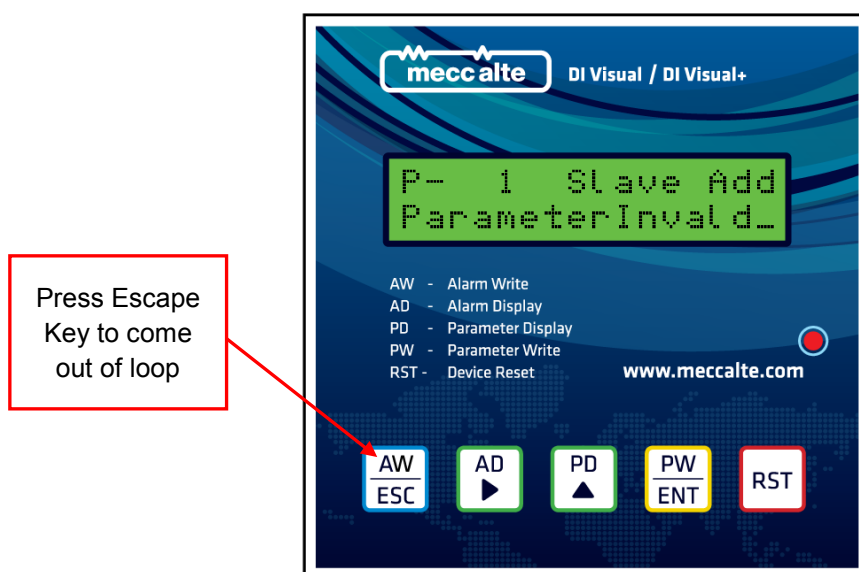

fig. 20
- 5) If New value set is not in the range of allowed values for DSR then system will prompt for "Parameter Invalid" as shown in Fig. 20 below and the value which was there before changing will be again shown on LCD.
- 6) To come out of the Parameter display option at any time press  key as shown in Fig. 20 above.